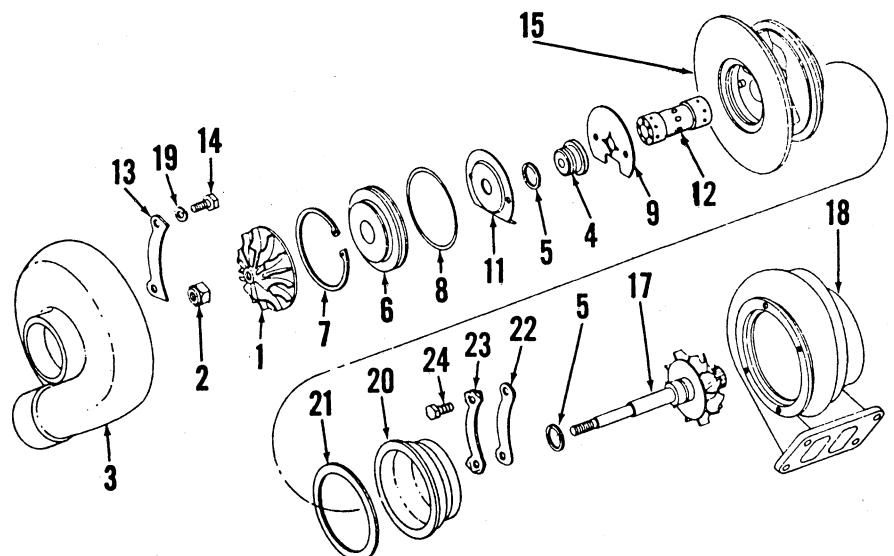

Fig. 66—Exploded view of Schwitzer Model 3LM turbocharger.
60. OVERHAUL. Prior to disassembling, place a row of light punch marks or scribe lines across compressor cover, bearing housing and turbine housing to ensure correct alignment when reassembling. Remove retaining clamp plates (13 and 22—Fig. 66) and carefully separate compressor cover (3) and turbine housing (18) from bearing housing (15).
Remove bearing housing from turbine housing and insert bearing housing into compressor cover (3—Fig. 66). Use feeler gages to measure clearance between turbine wheel (17) and back plate (20). Clearance should be 0.017-0.049 inch (0.43-1.24 mm). If clearance is not within specified range, check for burrs, carbon deposits or improper assembly and correct as necessary. Align indexing marks on bearing housing and compressor cover and tighten cap screws evenly to 60 in.-lbs. (7 N·m). Use a dial indicator to measure shaft radial clearance and end play. If clearances are not within ranges indicated in specification ta-